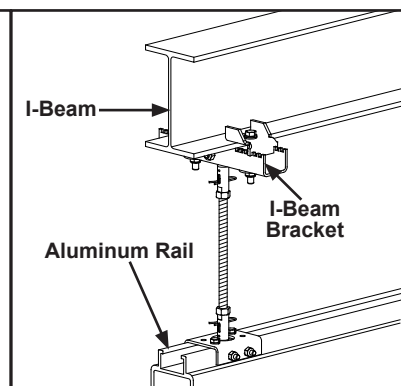

Figure 3-65
Step 3. Center I-Beam bracket on lower I-Beam flange. See Figure 3-65.